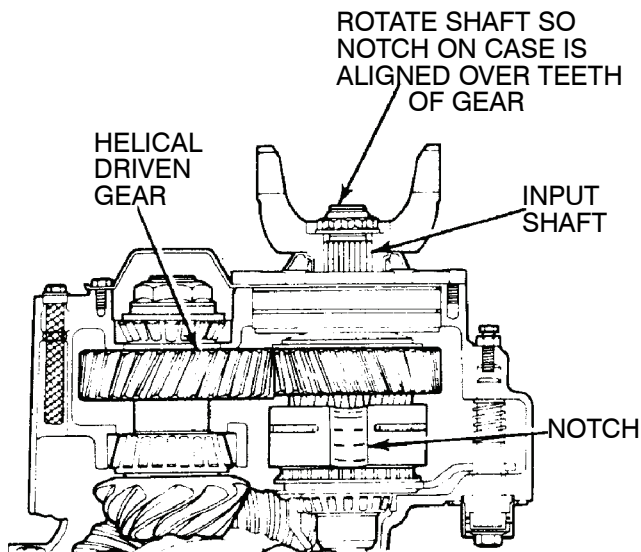
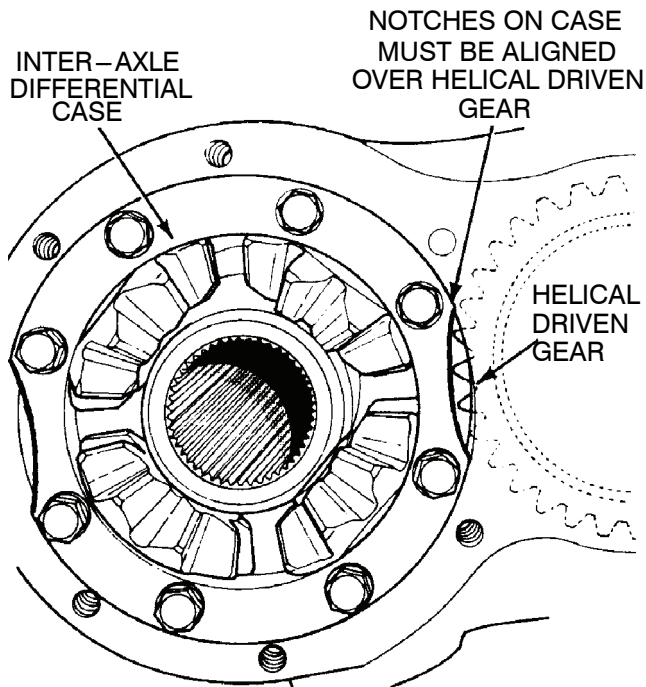

Figure 14. Input Shaft Assembly.
Figure 15. Case to Gear Alignment.
- * If the input shaft assembly cannot be removed easily, the case of the inter-axle differential must be rotated. Rotate the input shaft until one of the notches on the case is aligned over the helical driven gear. Remove the input shaft assembly from the carrier. Figure 14 and Figure 15.